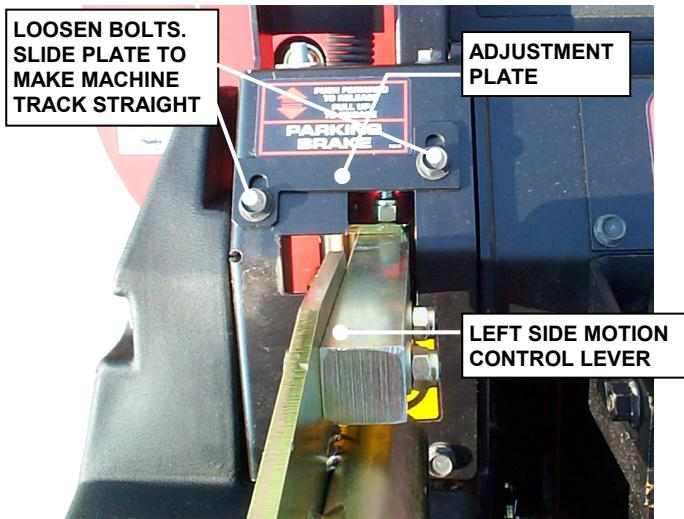

FIGURE 4
- D. If machine tracks to the left, loosen bolts that secure the right adjustment plate. Move plate rearward to slow the right wheel down. Retighten bolts. See Figure 4.